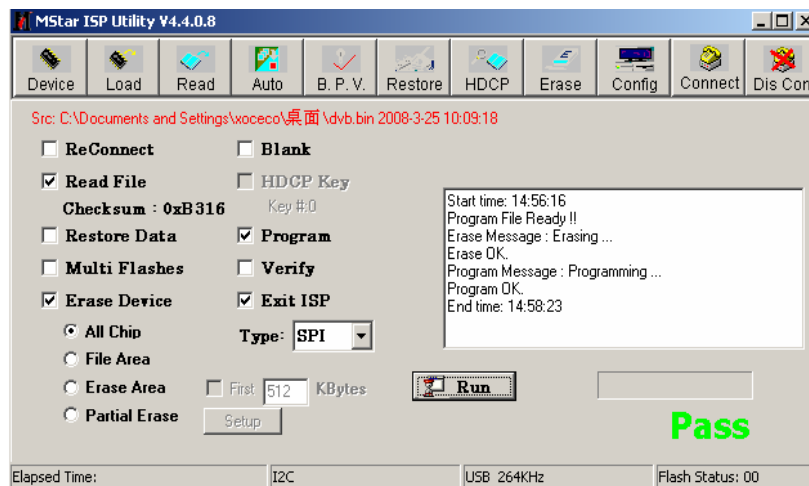

Fig. 6 A prompt “Pass” beside the key “Run” for successful burning
7) A prompt “Pass” will be displayed beside the key “Run” for successful burning as Fig. 6